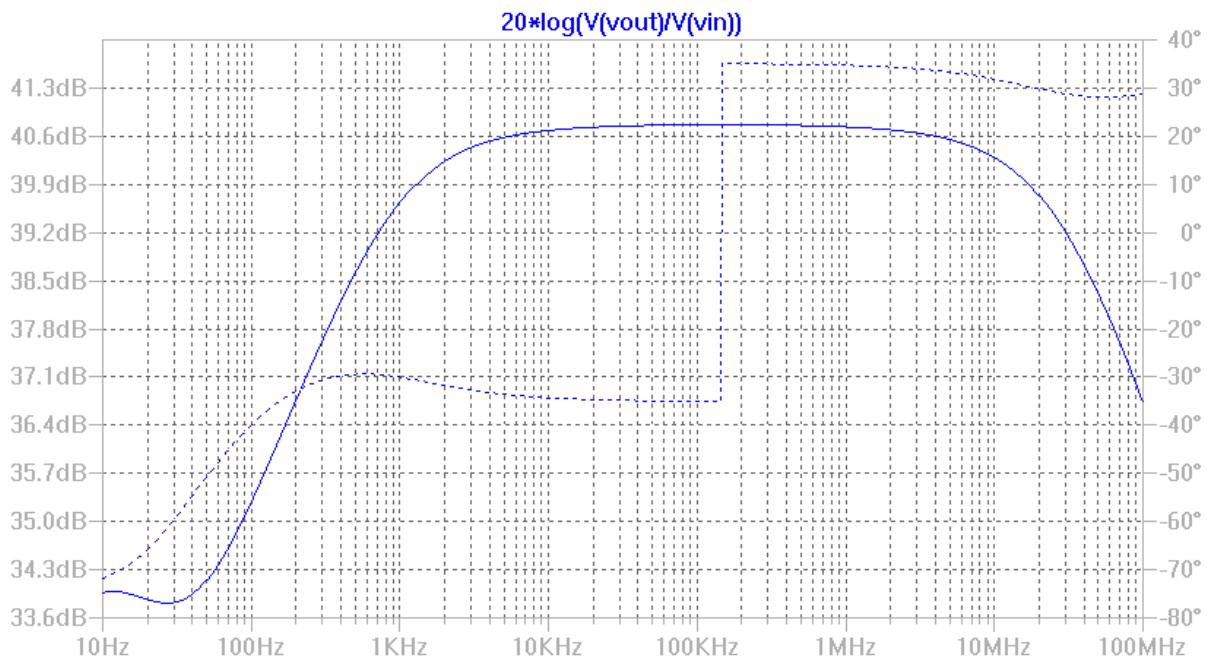

Figure 2.13: Bode plot (magnitude and phase) for the CE amp
7. Now let's create a Bode plot like the one shown in Figure 2.13. In the previous circuit for the CE Amplifier, right click on the V_s source, and under "small signal AC analysis", enter 10mV. In the 'Edit Simulate CMD', select AC analysis with the following parameters: